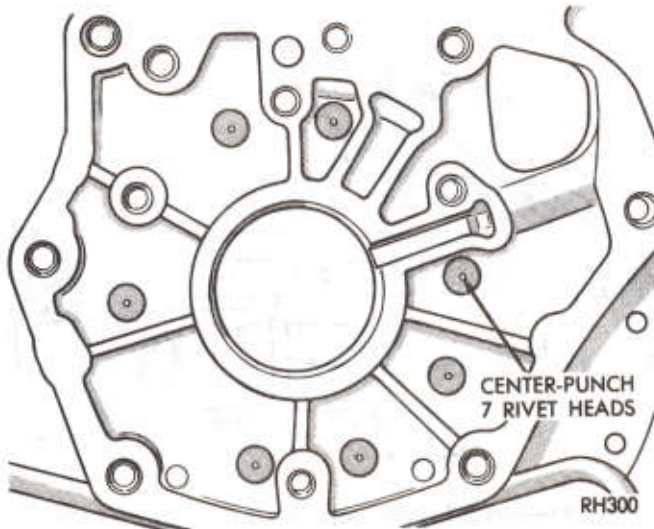

Fig. 36—Center Punch Rivet Heads (A-904T and A-999)
(1) Remove four bolts securing output shaft support to rear of the transmission case. Tap support rearward out of the case with a soft-faced hammer.
(2) Center punch the rivets exactly in center of each rivet head (Fig. 36).
(3) Drill through each rivet head with a 3/8 inch drill. Be careful not to drill into the transmission case. Chip off rivet heads with a small chisel, then drive rivets and cam from the case with a blunt punch of proper size.
(4) Carefully enlarge rivet holes in the case with a 17/64 inch drill. Remove all chips and foreign matter from the case, make sure cam area is free of chips and burrs.
(5) To install, position cam and roller spring retainer in the case. Align cam bolt holes with holes in